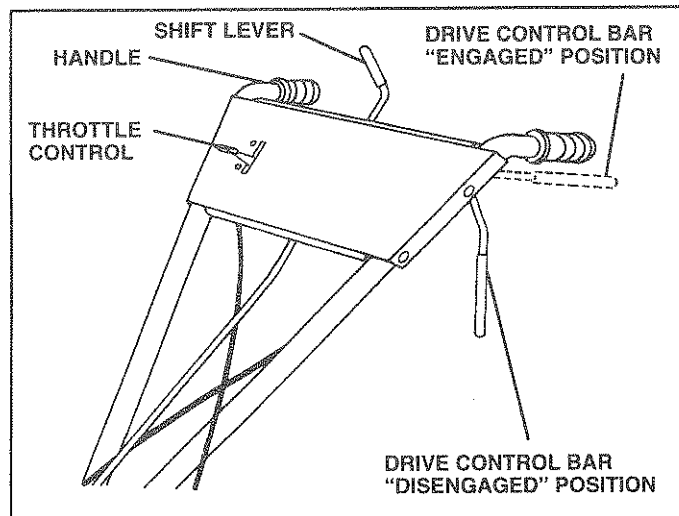

FIG. 9
STOPPING (See Fig. 9)
- You will find tilling much easier if you leave a row untilled between passes. Then go back between tilled rows. (See Fig. 9) There are two reasons for doing this. First, wide turns are much easier to negotiate than about-faces. Second, the tiller won't be pulling itself, and you, toward the row next to it.